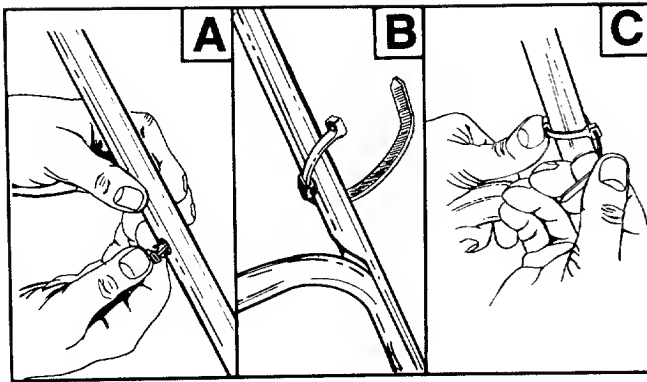

FIGURE 8.
14. Remove the screw on the cable clamp shown in figure 8. Slip the control casing under the clamp. Replace the screw, but do not tighten (cable must still move freely beneath the clamp).